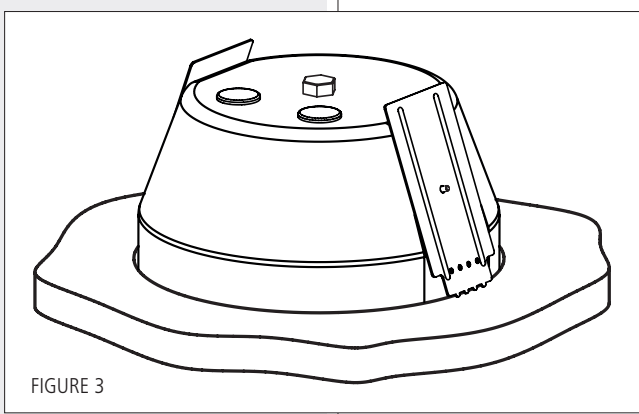

FIGURE 3
4. Loosen the two wing bolts **A** again and move the two attachment plates **B** downwards to secure the base to the false ceiling (as shown in figure 3). When this operation is complete, retighten the two wing bolts **A**.